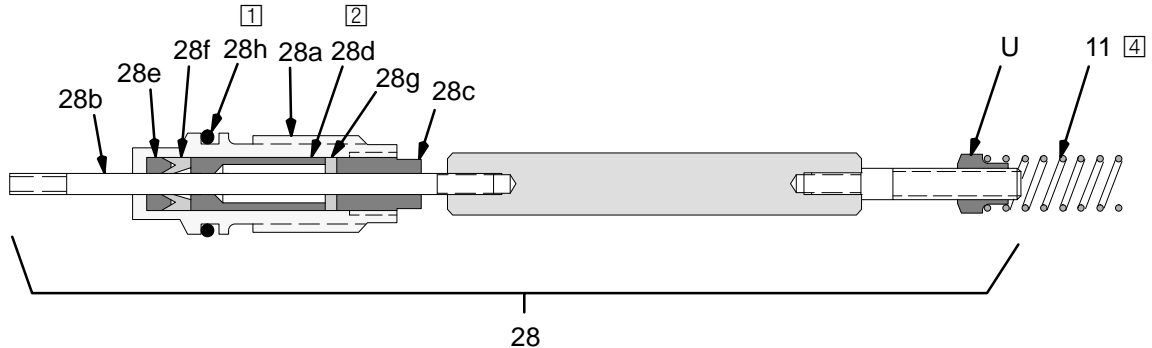

Fig. 30
6. *If the parts are purchased separately*, assemble them as instructed in steps 7 to 10 and as shown in Fig. 30, on page 39.
8. Fill the entire inner cavity of the spacer (28d) with the dielectric grease included with the gun. Place the spacer on the fluid rod (28b), in the direction shown in Fig. 30. Generously apply the grease to the outside of the spacer.
9. Place the fluid packing (28f), needle packing (28e), and housing (28a) on the fluid rod (28b), as shown in Fig. 30.
10. Lightly tighten the packing nut (28c) with the multi-tool (83). The packing nut is properly tightened when there is 2 lbs. (9 N) of drag force when sliding the packing housing (28a) assembly along the shaft. Tighten or loosen the packing nut as needed.
12. Make sure the spring (11) is installed against the nut (U) as shown in Fig. 30.
13. Install the fluid packing rod assembly (28) into the gun barrel. Using the multi-tool (83), tighten the assembly until just snug.
15. Install and adjust the actuator arm (19) and jam nut (46) as instructed on page 40.